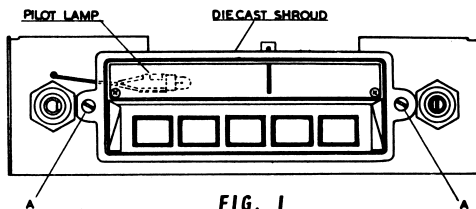

FIG. 1
2. Remove two screws marked "A" - FIG. 1.